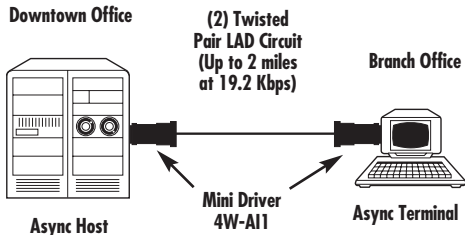

Figure 2. Typical Application for Mini Driver 4W-AII
- **Mini Driver 4W-AII (ME763A)** — designed for use with a telco LAD (Local Area Data) circuit to connect to a device off premises. This model complies with Bell specification 43401. See Figure 2 for a typical application of the Mini Driver 4W-AII.